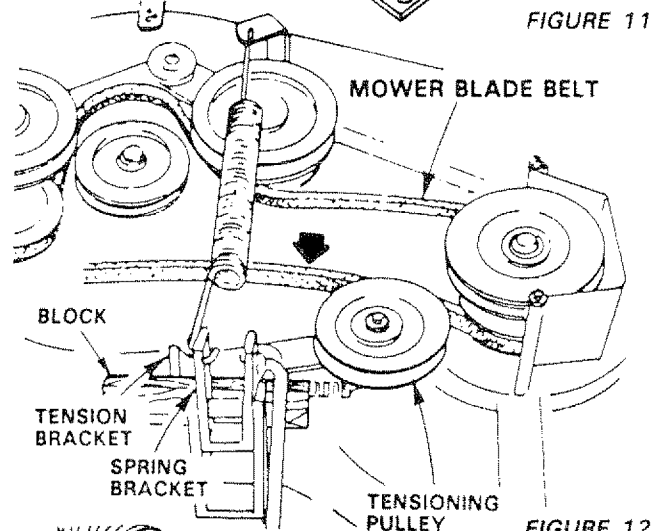

FIGURE 12
- Pull belt towards rear of mower at tensioning pulley. Place a block between tension brackets and spring brackets. Roll belt off tensioning pulley (Fig. 12).